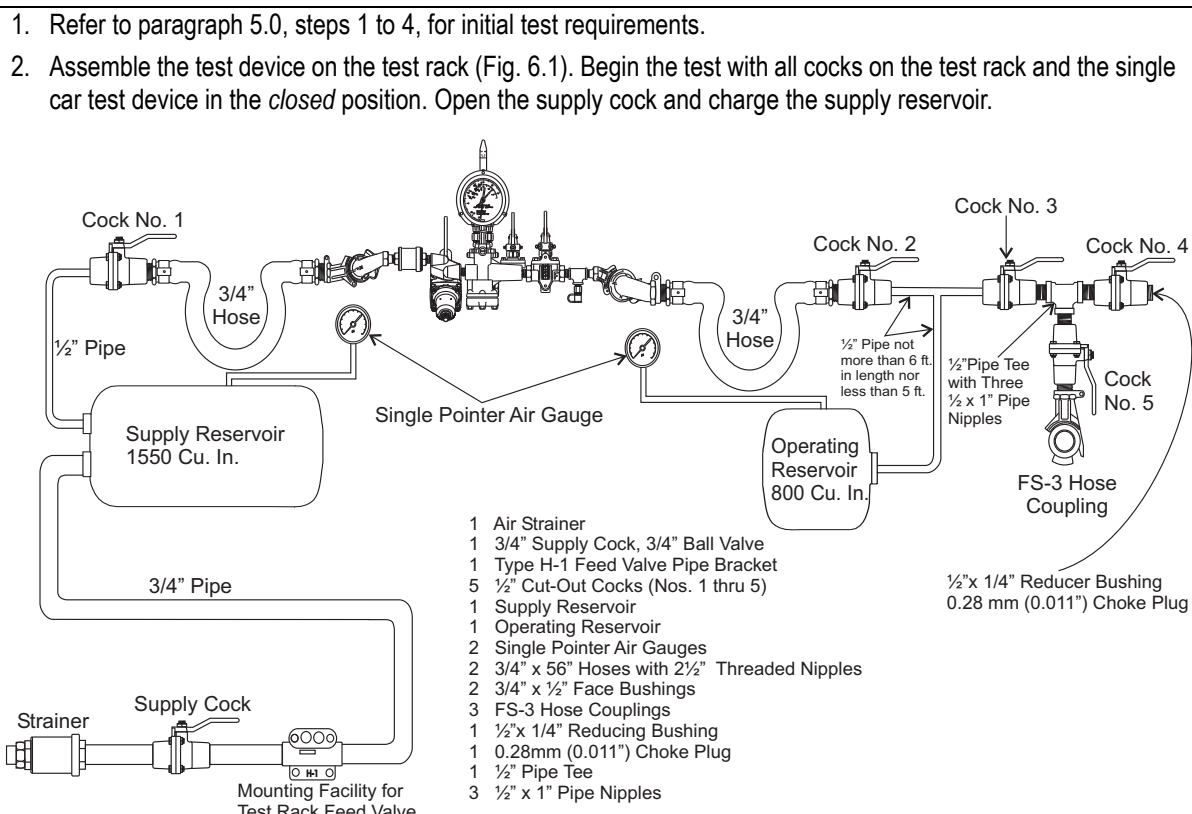

Fig. 6.1 Device for quarterly test of the single car testing device—alternate 2
6.0 QUARTERLY TEST FOR TESTING THE DEVICE (USING THE TEST APPARATUS IN FIG. 6.1)
2. Assemble the test device on the test rack (Fig. 6.1). Begin the test with all cocks on the test rack and the single car test device in the *closed* position. Open the supply cock and charge the supply reservoir.